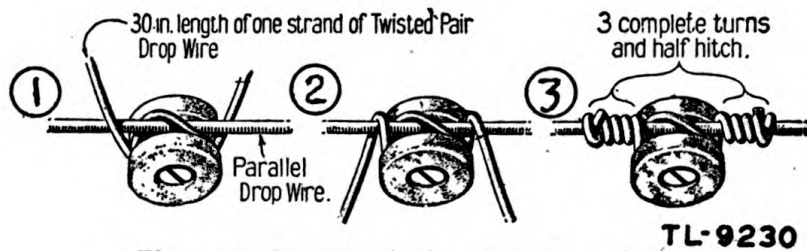

Figure 35. Straight tie (parallel drop wire).
a. STRAIGHT TIE. The straight tie is made as shown in figure 35.